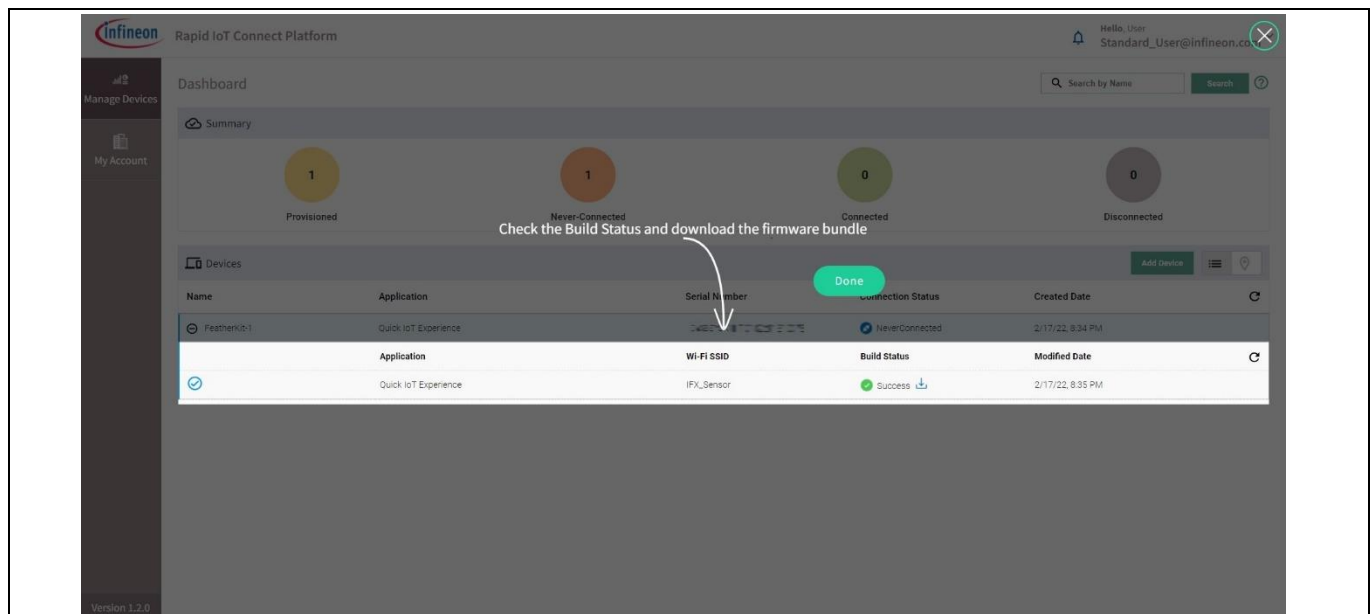

Figure 13 Device management dashboard
- After you click **Submit**, a custom *hex* file will be built for your device, and a software bundle will be generated for programming your development kit, as shown in Figure 13.
Depending on your laptop or PC's operating system (Windows/Linux/Mac), you will receive a downloadable package that includes a *hex* file firmware image and a programming tool for your KIT_CSK_BGT60TR13C kit. The package will be in the form of a zip file. To view the detailed device status, click on the ⊕ (expand) button. To download the zip package, click ↓ (download) next to **Success** on the application as shown in Figure 13.